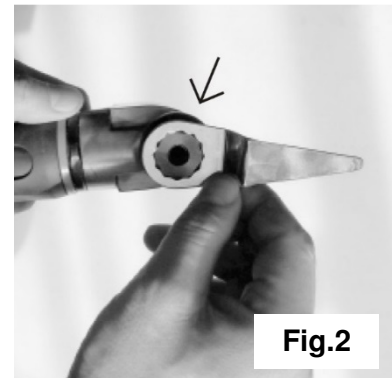

Fig.2
- 1.3. Assemble blade with camber surface upward. (Fig.2)